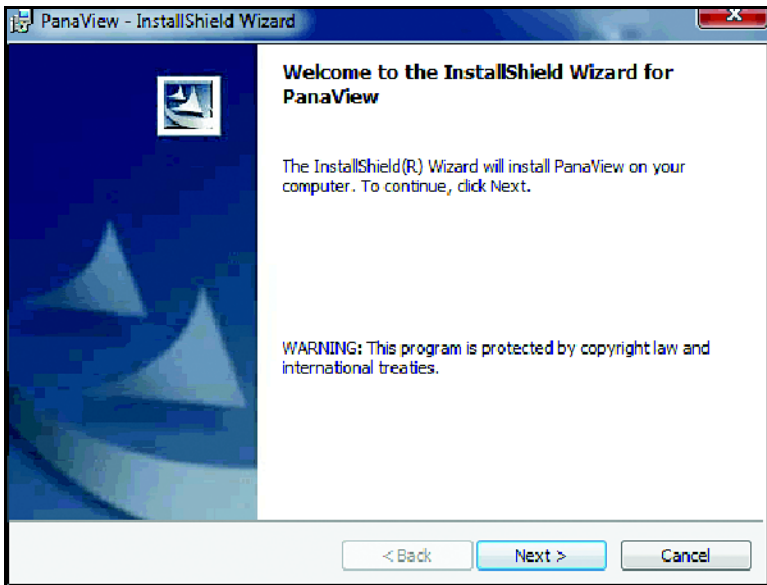

Figure 3: *Install-Shield Wizard Screen*
3. The *Install-Shield* wizard, shown in *Figure 3* below, will launch and guide you through the installation process. Click on the [Next] button to continue.